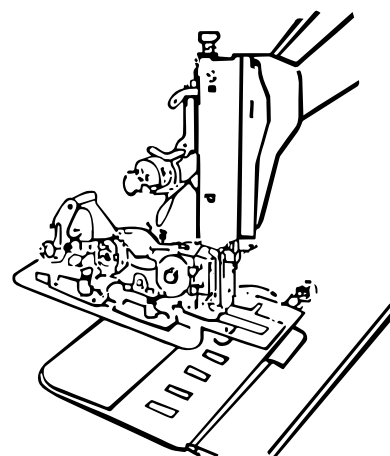

FIG. 2
1. Kindly refer to FIG. 2. Turn the handwheel to bring the needle to its highest position.
2. Place the buttonholer from the rear so that the presser bar will fit to the SLOT FOR PRESSER BAR. Make sure that the FORK ARM LEVER will rest on top of the SPECIAL NEEDLE SETTING SCREW before tightening the two (2) screws to fix the buttonholer.